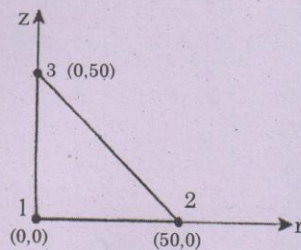

Fig 14(a)
- (b) Derive the expression of shape function for heat transfer in 2D element. (16)
14. (a) Determine the stiffness matrix for the axisymmetric element shown in Fig 14(a). Take  $E$  is  $2.1 \times 10^5$  N/mm2,  $\nu = 0.25$ . The coordinates are in mm. (16)